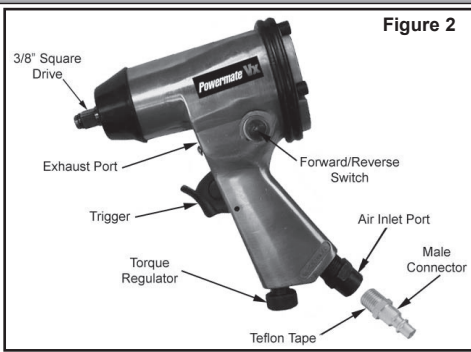

Figure 2
- Install a 1/4" NPT male connector (not included) into the air inlet port on the tool (see Figure 2).